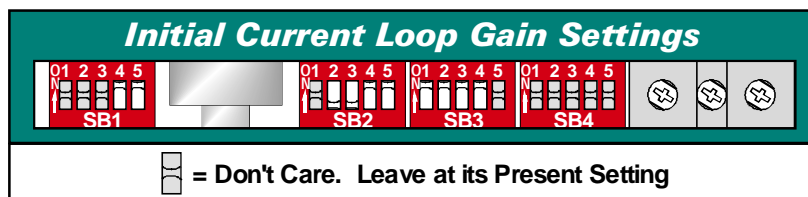

Figure 5.8 Initial Setting of Determining Current Loop Gain
- 3) Set the switches on the SD17080 to the values given in figure 5.8. The Pulse Train Input, Anti-Resonance, Anti-Resonance Phase, Current Control, and Motor Current setting have no effect and should be left at settings you have determined for your system.